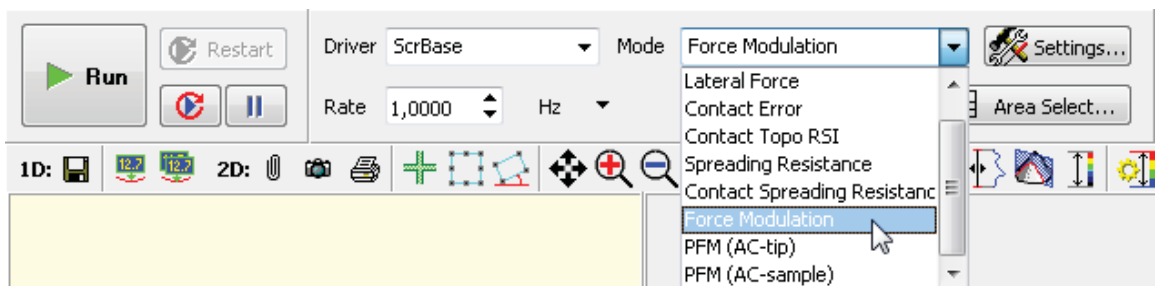

Fig. 7-44. Selecting the Force modulation method
1. Select **Force Modulation** in the **Mode** drop-down list of the Control panel of the **ScanForm** window (Fig. 7-44). The signals **Height**, **Mag** and **Phase** will be selected for measurements.